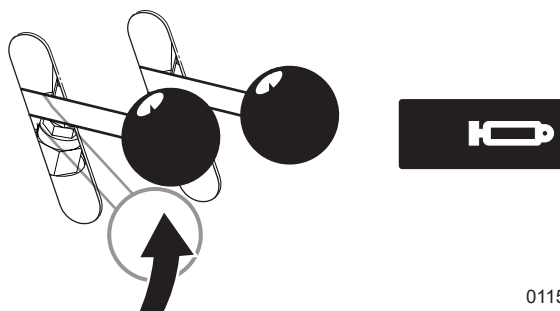

**Figure 41**—Push the two splitter-cylinder control levers down
2. Simultaneously, push the **splitter cylinder extend** and **splitter cylinder retract** control levers down (into detent; see *Figure 41*) to start **Auto Cycle**: